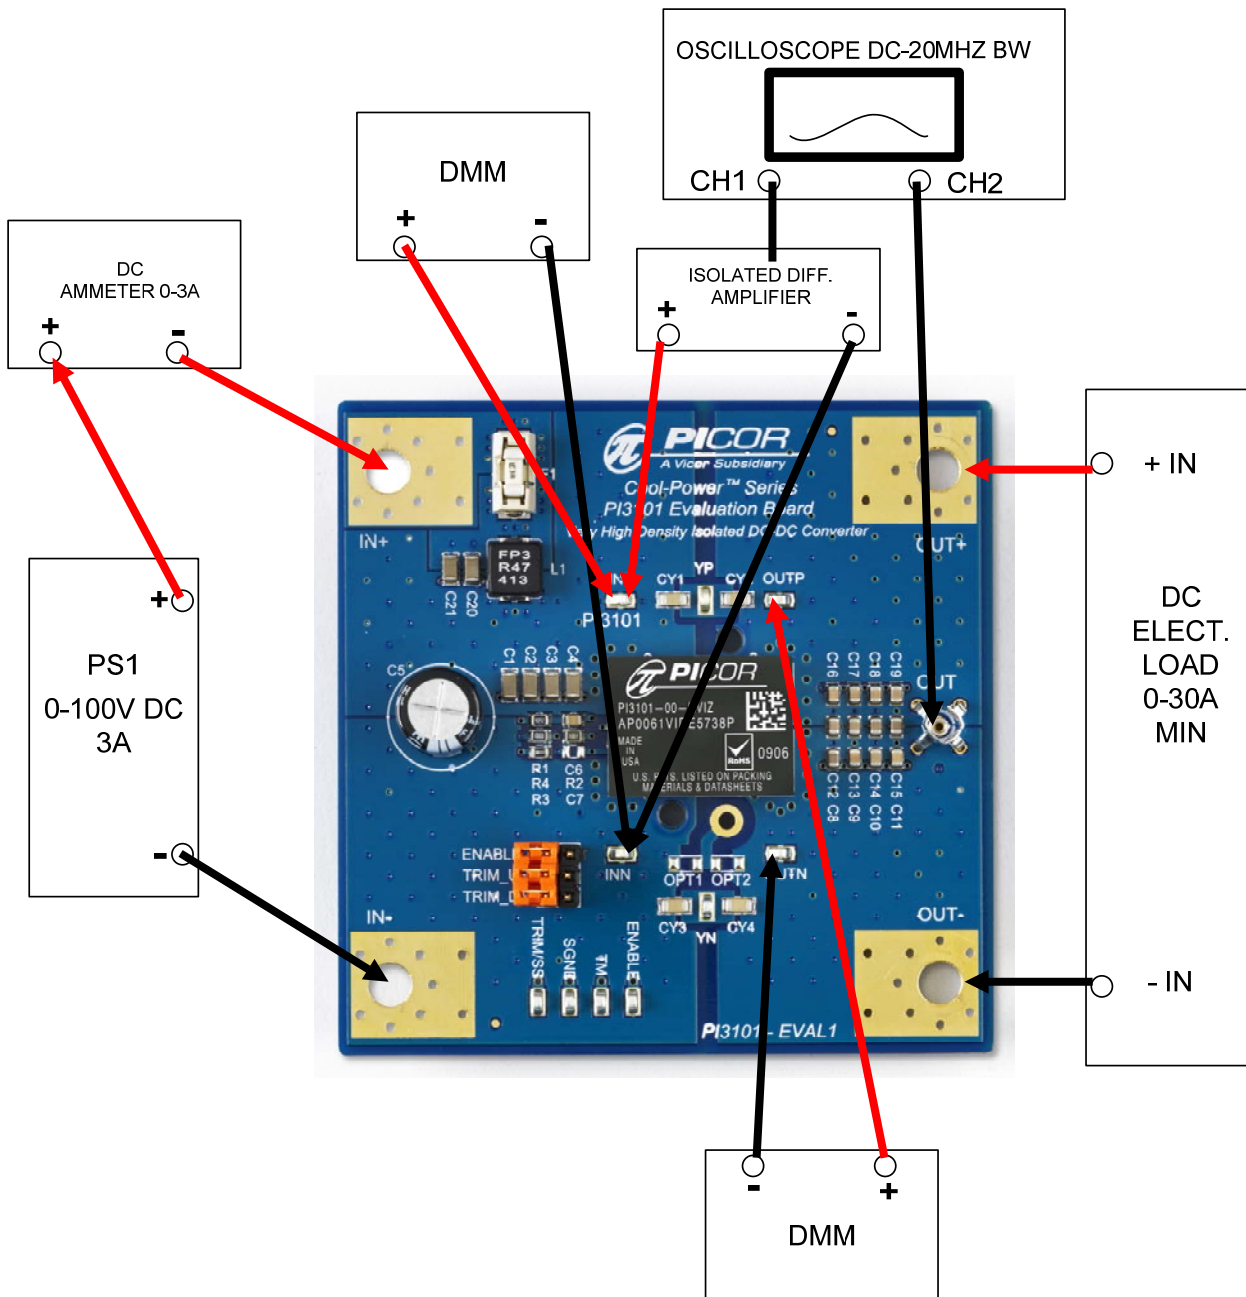

Figure 4 Initial PI3101-EVAL1 Test Setup
- 1.1. Connect the input DC power supply to the target board as shown in Figure 4 above. The negative terminal should be wired to – IN and the positive terminal should connect to the positive terminal of the DMM wired as a DC Ammeter. Be sure that the proper sized wires are used to allow minimum voltage drop for a maximum input current of 3A. Use ring lugs mated to the included fasteners on the evaluation board. If your input power supply has remote sense capability, it can be wired to the INN and INP test points if desired. This is a convenient way to regulate the input to the PI3101 during testing.
- 1.4. Connect the oscilloscope as shown in Figure 4 if you are planning to measure both primary and secondary signals at the same time. If you do not have an isolated